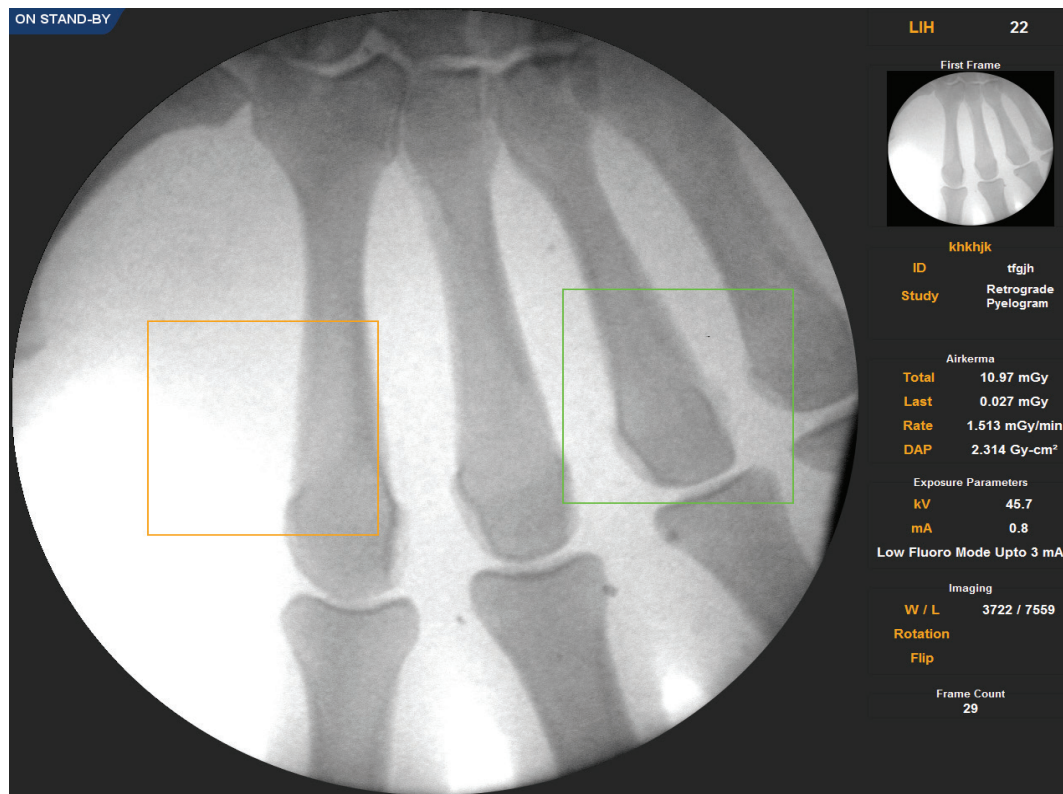

Figure 50: Outcome of ROI
- **Selection:** Software will display a green color box once the right mouse button is clicked on LIH of Live window. This will indicate that this feature has been selected. After selecting the area of interest take an exposure to change the brightness and contrast of the image. This will be visible only when this feature enabled as shown in "Figure 50".